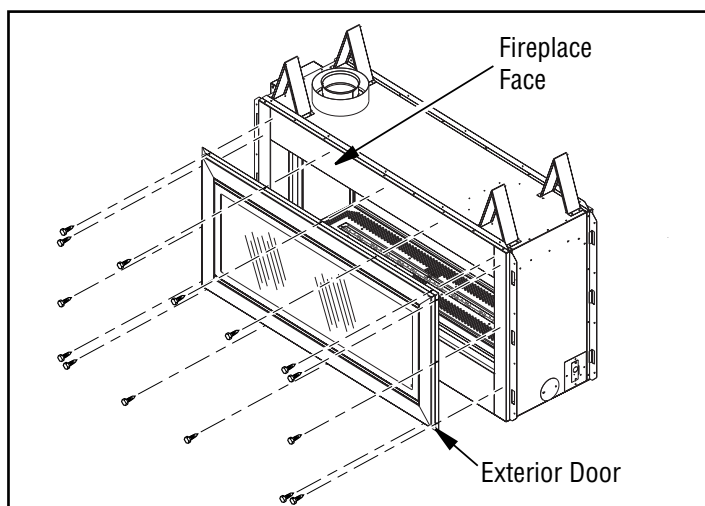

Figure 45 - Installing Exterior Door for See-Thru In/Out Application
2. Using self tapping screws (provided) secure exterior door to the face of the fireplace by drilling through holes on door into the fireplace face (**Figure 45**). You may chose to drill pilot holes into the face using a 1/8" drill bit. Do not use self tapping screws, use any #10 x 1/2" screw.